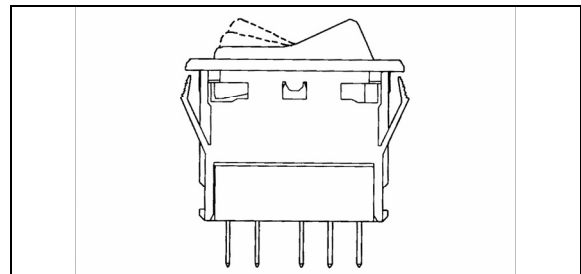

FIGURE 36: SWITCH
3. To install a new switch, reverse the procedure (Fig. 36).